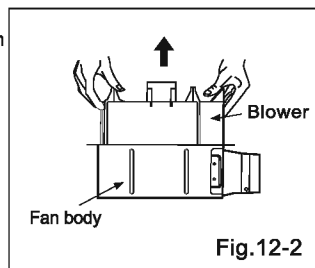

Fig.12-2
2. Remove blower section. (Fig. 12-2)